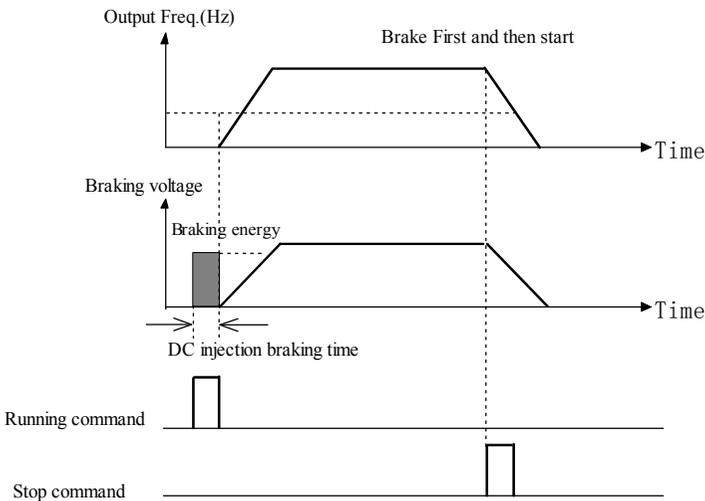

Fig. 5-1-1 Brake First and then start
- ◆ Brake first and then start: Inverter adds some DC injection braking power to load first, and then startup. As shown in Fig. 5-1-1. Starting mode 1 is suitable for small inertia load which is running forward or reverse while the inverter is in stop state, such as fan load. DC injection braking parameters refer to P1.03 and P1.04.
P1.03 and P1.04 are only active when P1.00 is set to 1 (start mode 1 is selected), as shown in Fig. 5-1-1.
Refer to Fig. 5-1-1, the inverter outputs DC injection braking current at start (P1.03), during DC injection braking time at start.